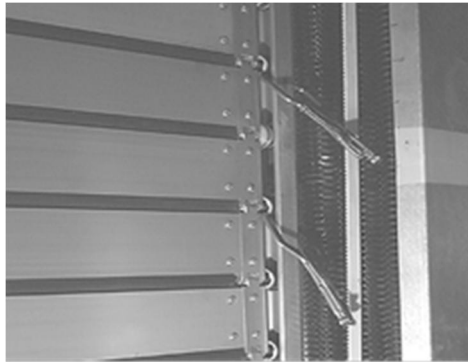

Figure 3a
5. Place clamps above and below the rollers on both ends to prevent the door from moving (Be sure the clamps are tight and reliable). Remove the face of the track. (See Figures 3a & 3b).